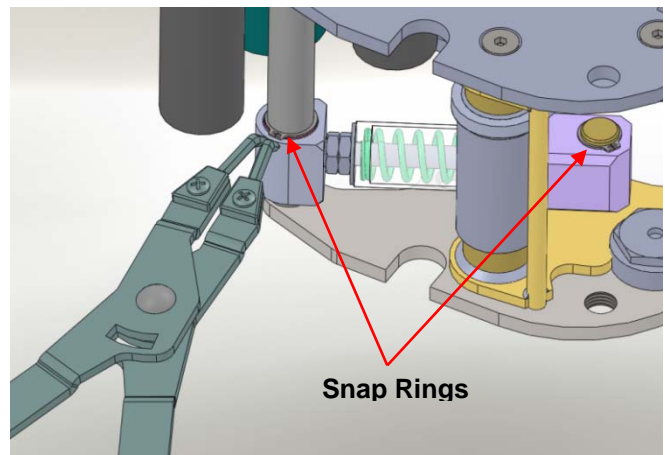

Figure 10-13
5. Reinsert retaining rings to their grooves. Should the 12 mm retaining ring brake (left one on Figure 10-13), the shaft needs to be freed to replace it. Calibrate spring pressure with the M6 nuts as described earlier.